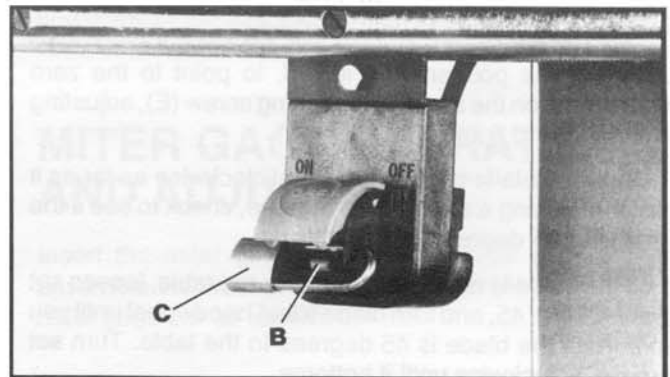

Fig. 42
We suggest that when the saw is not in use, the on/off switch trigger (B) Fig. 42, be locked in the "OFF" position using a padlock (C) through the two holes in the switch plate, as shown in Fig. 42.